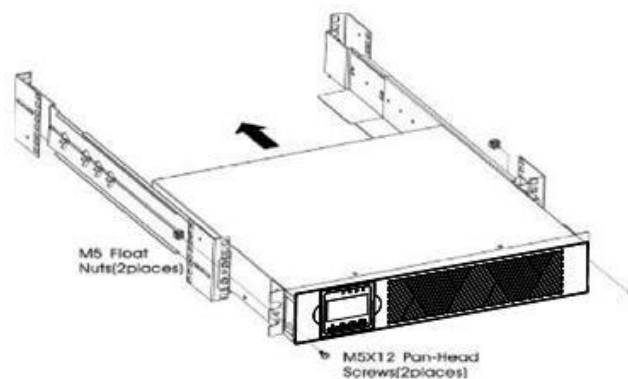

Figure 4 Securing the Front of the Cabinet
- l) Secure the front of the UPS to the rack using one M5×12 pan-head screws and one M5 cage nuts on each side (see Figure 4). Install the bottom screw on each side through the bottom hole of mounting bracket and the bottom hole of the rail.